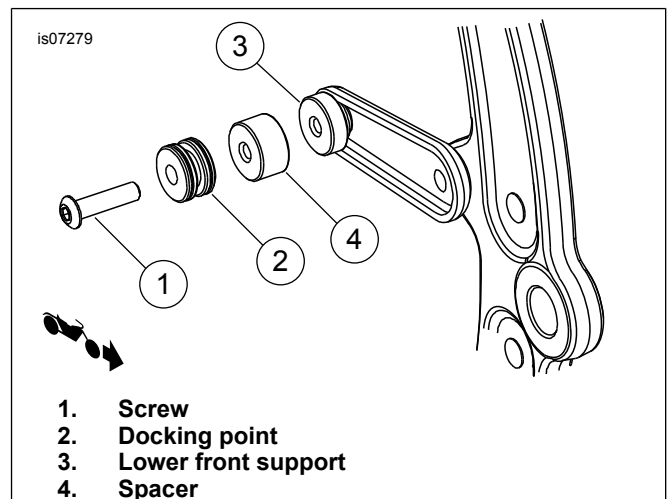

Figure 5. Lower Front Docking Point (With Other Detachable Accessories)
1. See Figure 5. Install mini docking point (2), spacer (4) onto screw (1).
3. Install screw into the lower front support (3). Tighten screw to 16.3–24.4 N·m (12–18 ft-lbs).